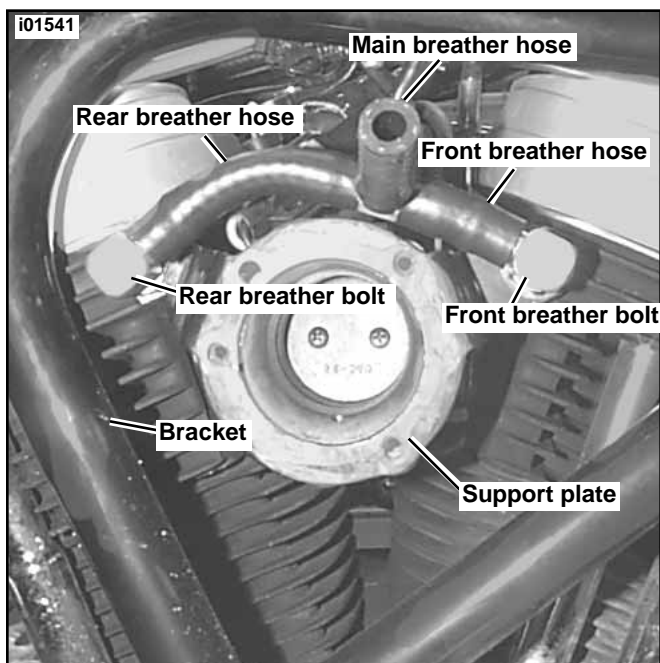

Figure 18. M2 or S3 Race Breather Hose Setup
1. See Figure 18. Install new 90° front breather bolt. Tighten jam nut.